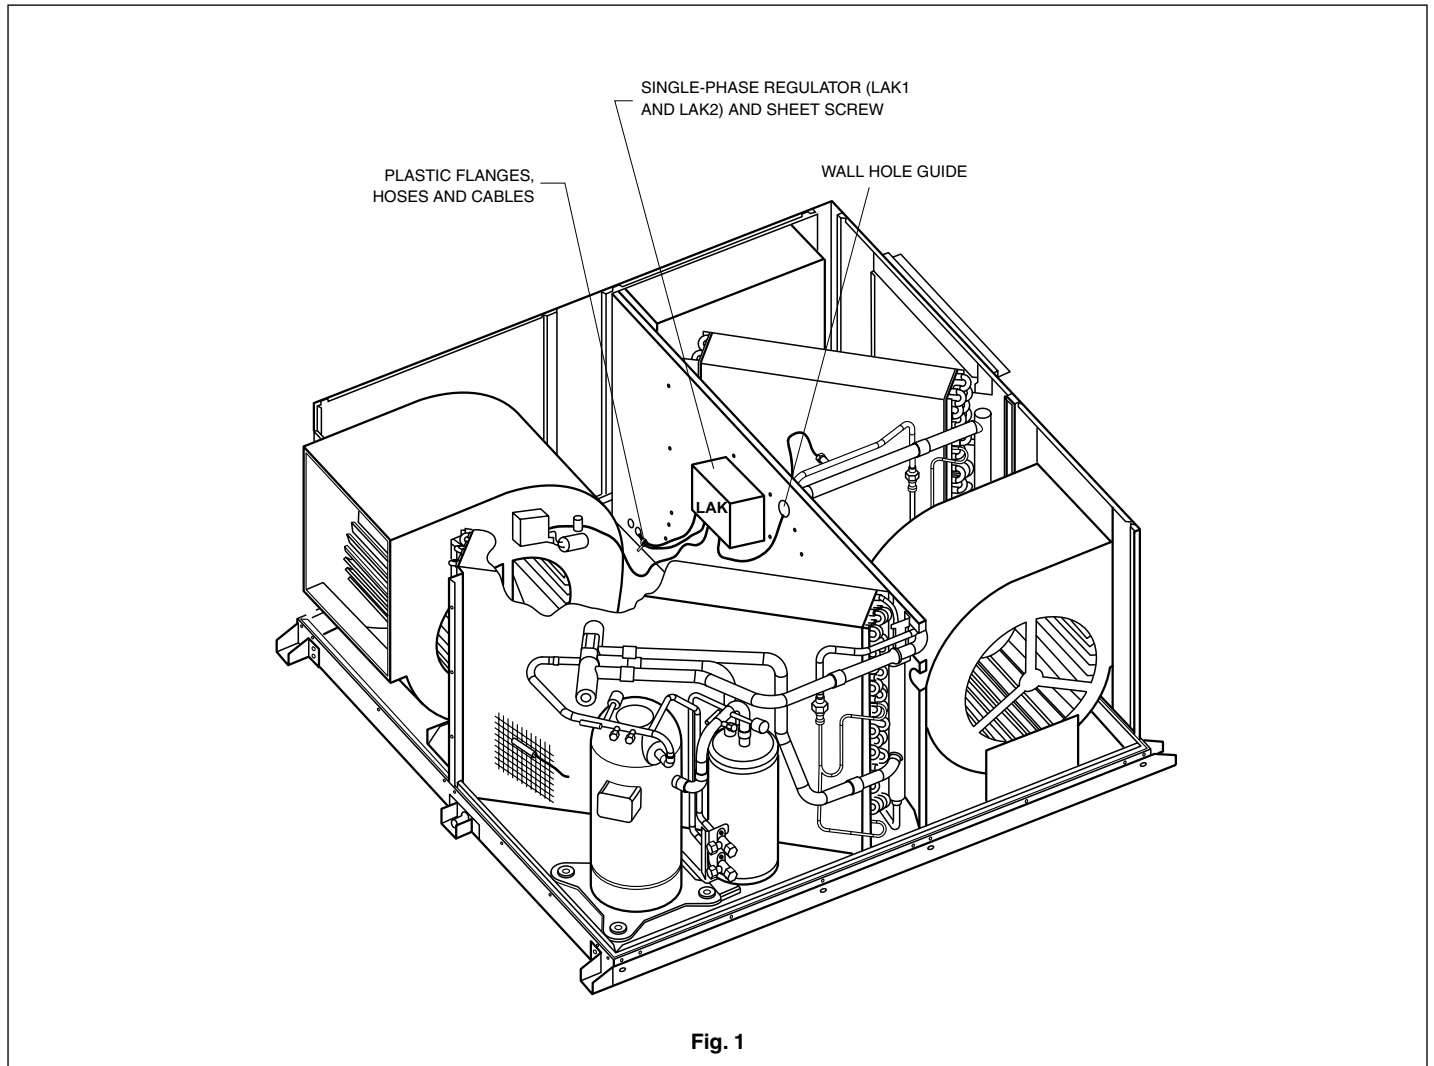

Fig. 1
Disconnect main power supply to the unit with switch Q1. See Figs. 1, 2, 3, 4, 5 and wiring diagram for details on assembly and wiring connections.
- 2.- Install the lower support supplied, as in figure 1. Fasten the support with the self-threading screws of the accessory.